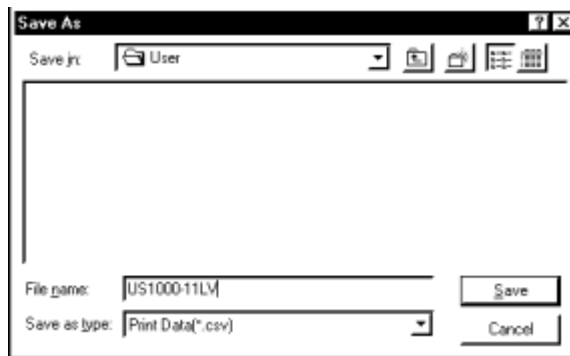

Figure 7.3.1 [Output File] Dialog Box
(1) Click the <Output File> button. The [Save As] dialog box (Figure 7.3.1) appears.
(2) In the <File name> text box, input a filename (of less than 16 alphanumeric characters) then click the <Save> button.